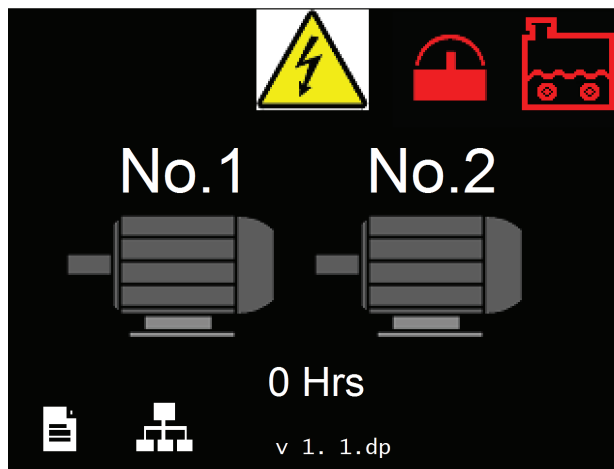

Figure 7.21 - Electric Mode Home Screen
- » The electric mode home screen will be displayed on the control panel, Ref: Figure 7.21.